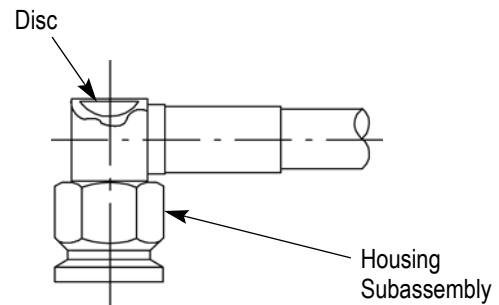

Figure 4
8. Press the disc into the opening at the back of the housing subassembly. See Figure 4. Remove the assembly from the locator tool. If preferred, apply epoxy to the disc to hold it in place. **DO NOT** allow epoxy to penetrate the housing subassembly.